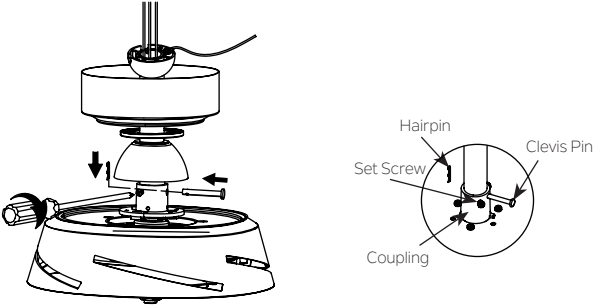

Fig. 11
Step 6. Insert the clevis pin through the downrod and coupling found on the motor assembly, and secure with the hair pin. Tighten set screws found on the coupling. (Fig. 11)